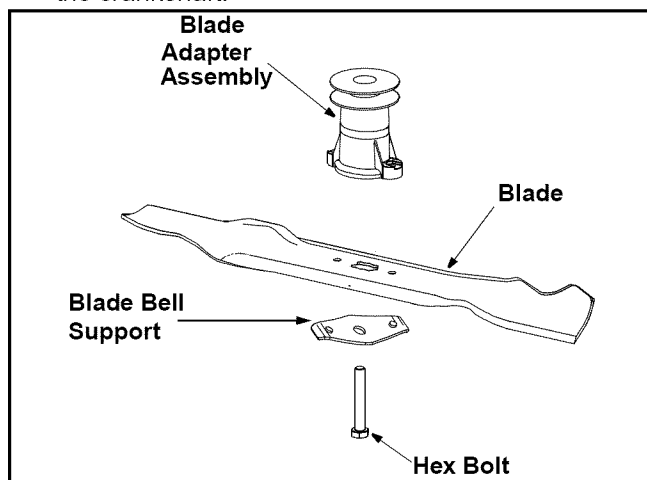

Figure 14
- Remove the bolt and the blade bell support that hold the blade and blade adapter assembly to the engine crankshaft. See Figure 14.